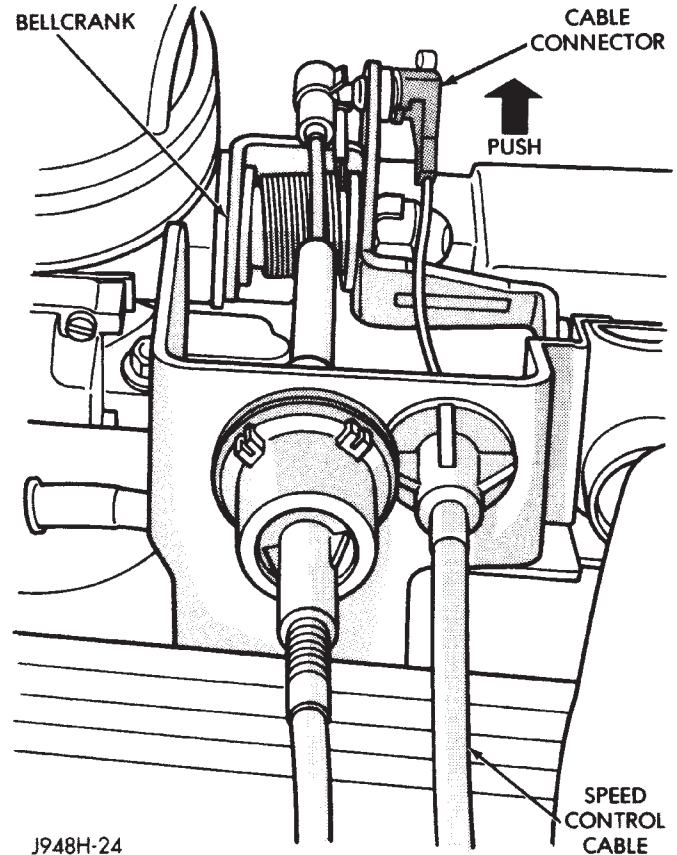

Fig. 5 Servo Cable to Bellcrank—Remove/Install
- (1) Disconnect negative battery cable at battery.
- (2) Using finger pressure only, remove cable connector by pushing connector off the throttle body bellcrank pin (Fig. 5). **DO NOT try to pull cable connector off perpendicular to the bellcrank pin. Connector will be broken.**